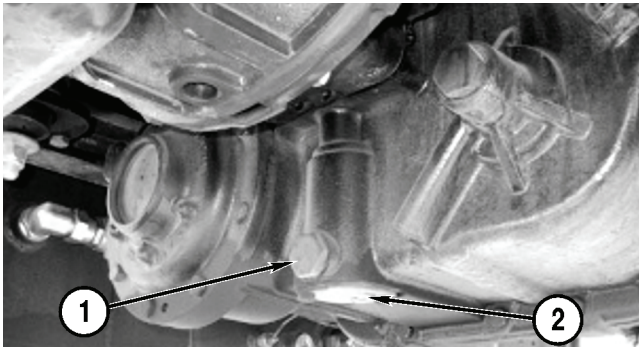

Figure 5-48
1. Remove the drain plug (**Figure 5-48, 1**) and drain the transmission fluid into a suitable container.
4. Remove the strainer (**Figure 5-48, 2**), clean with diesel fuel and reinstall the strainer and plate.